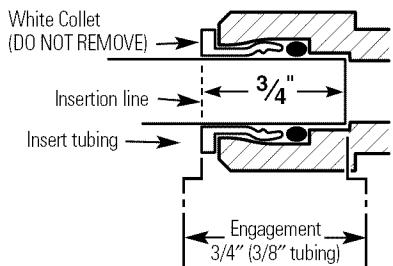

Fig. 9
- Push the tubing firmly into each fitting on the manifold until the line is flush with the fitting collar. (If the tubing is removed, re-cut the end, measure, mark and re-insert). Tubing must be fully inserted to avoid leaks (Fig. 9). (**To remove tubing, depress and hold white collet; pull tubing out to remove.**)